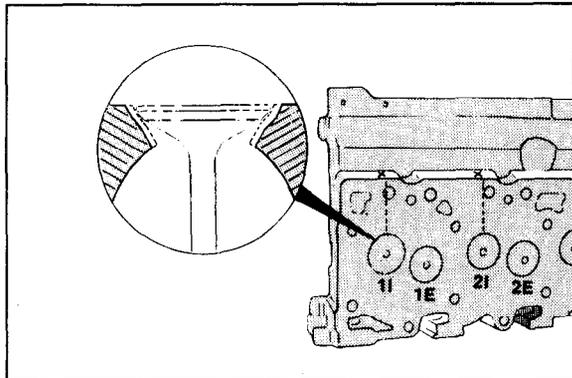

Figure 6-19
17. Record depth of each valve as B, and calculate grinding depth GD as $GD = B - A$ (Figure 6-19). The grinding depth limit is 0.010 in. (0.25 mm).